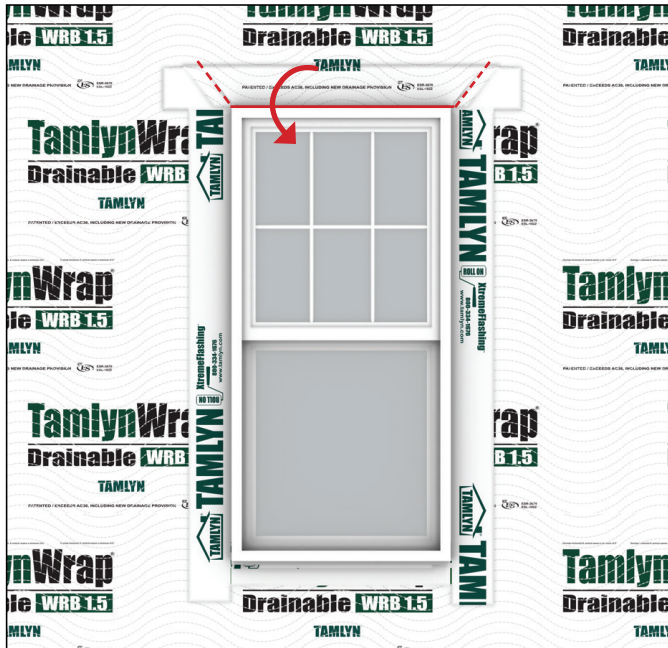

FIG 10:
- Fold the top tab of **TamlynWrap**® **Drainable WRB** over the head section as shown in **(FIG 10)**.